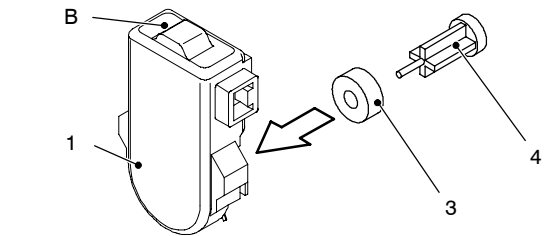

Fig. 62
- 3 Hold the flow switch sensor 1 and bring the ring in touch with the sensor as illustrated in Fig. 62.